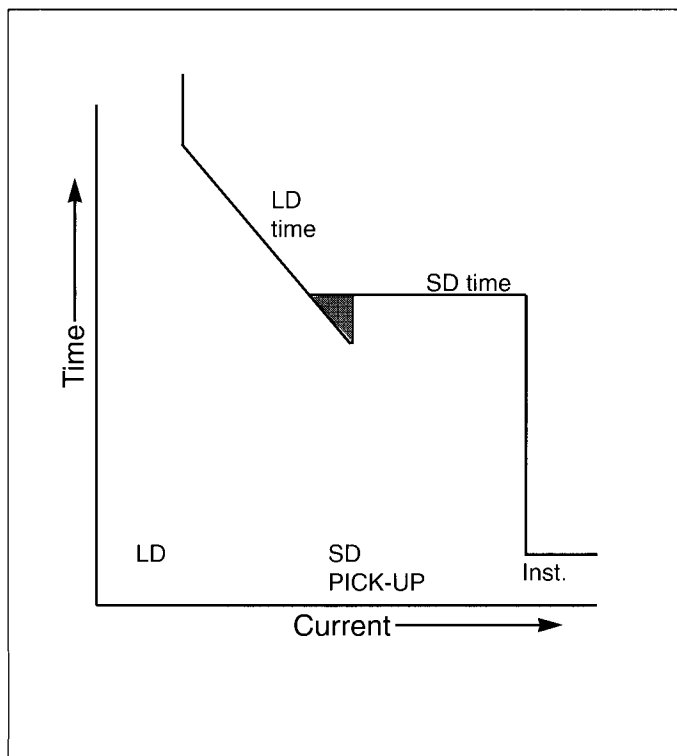

Figure 3-11 Typical LS Curve With I^2T Slope
Note that the scope of protection offered by the Digitrip MV Trip Unit is a coordinated effort. This is especially true when a number of protective functions, such as long time and short time protection are combined into one cooperative curve. Figure 3-11 shows a typical time-current which has both long and short time protection, and an I^2T slope selected for the long delay time. Because of the pickup, time and slope selections made
3. The internal design of the Digitrip MV Trip Unit is such that the Phase Short Delay Time setting might take precedence over the Phase Long Delay Time. This is graphically illustrated in Figure 3-11.